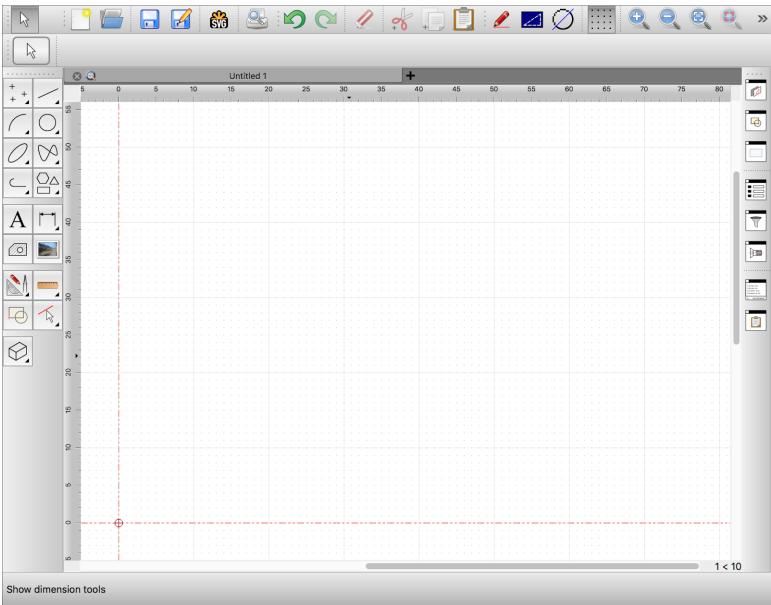

Figure 2-3: The QCAD application window after hiding the layer list, the property editor and the command line.
4. The application window should now look as shown in Figure 2-3.